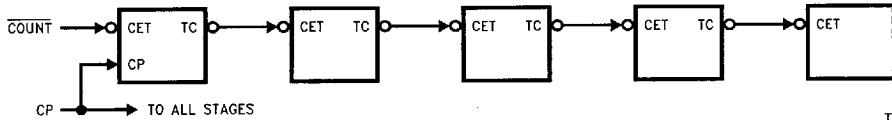
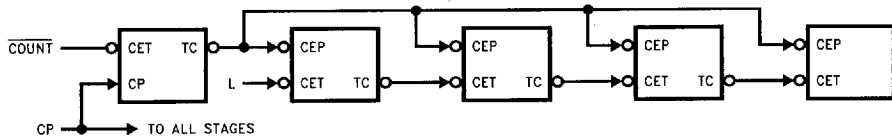

FIGURE 1. Multistage Counter with Ripple Carry
FIGURE 2. Multistage Counter with Lookahead Carry
*Figure 1* shows the connections for simple ripple carry, in which the clock period must be longer than the CP to TC delay of the first stage, plus the cumulative  $\overline{CET}$  to TC delay of the intermediate stages, plus the  $\overline{CET}$  to CP setup time of the last stage. This total delay plus setup time sets the upper limit on clock frequency. For faster clock rates, the carry lookahead connections shown in *Figure 2* are recommended. In this scheme the ripple delay through the intermediate stages commences with the same clock that causes the first stage to tick over from max to min in the Up mode, or min to max in the Down mode, to start its final cycle. Since this final cycle requires 16 clocks to complete, there is plenty of time for the ripple to progress through the intermediate stages. The critical timing that limits the clock period is the CP to TC delay of the first stage plus the CEP to CP setup time of the last stage. The TC output is subject to decoding spikes due to internal race conditions and is therefore not recommended for use as a clock or asynchronous reset for flip-flops, registers or counters.